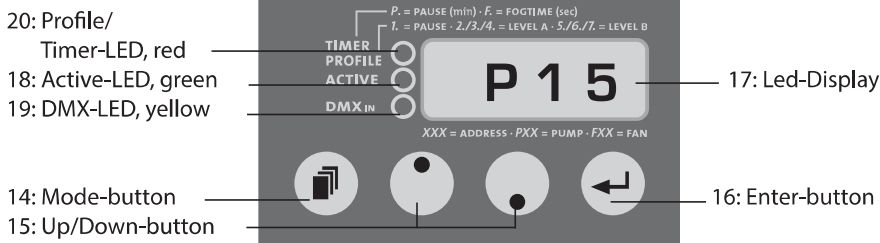

Fig. 1: Adjusting the pump output
- a) Press the Mode-button [14] at the control panel until a P and two figures appear on the LED display [17] (see Fig. 1). Put the pump up to 99%.
- Press the Mode-button [14] at the control panel until a P and two figures appear on the LED-display [17] (see Fig. 1).